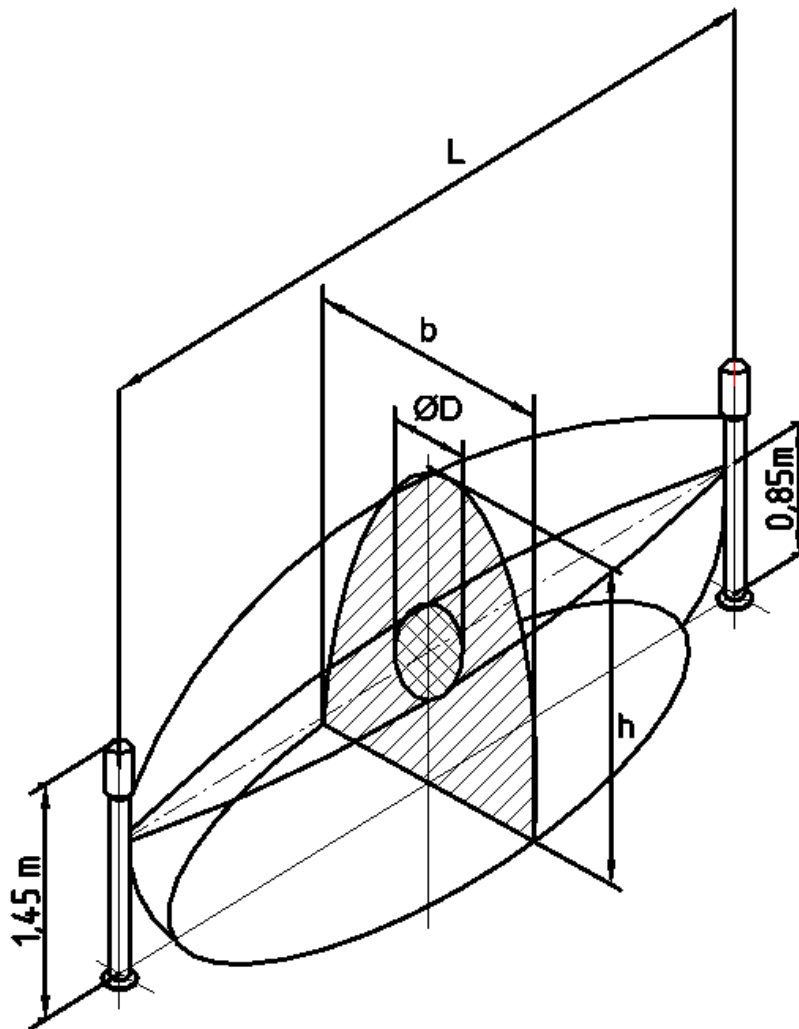

Fig.3.1 – Detection zone
3.2. The detection zone dimensions of MW and IR channels are given in Table 3.1 and fig.3.1.